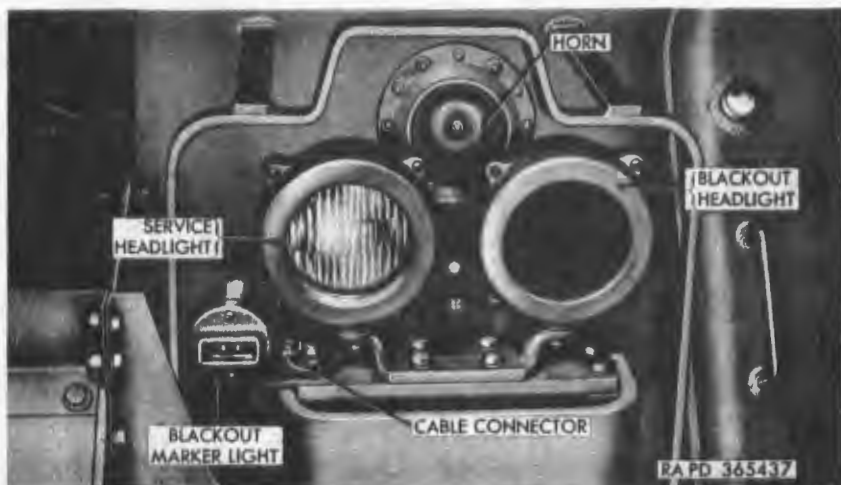

Figure 149. Horn and right headlight group.
b. Horn and Horn Operating Switch. The horn (fig. 149) is a vibrator type with an internal ground connection and is mounted on the hull front plate between and to the rear of the right service and blackout headlights. The horn is actuated by a push button-type switch located on the steering control crossbar (fig. 10).
c. Service Headlights (figs. 149 and 150). The service headlights are bracket mounted under a guard on the left and right front of the hull. These lights are actuated from the main light switch (A-1, fig. 15) which is located on the instrument panel and are used whenever the tactical situation permits bright lighting. The service headlights contain a replaceable sealed lamp-unit.
d. *Blackout Headlights* (figs. 149 and 150). Each blackout headlight is mounted beside a service headlight and toward the center of the vehicle. These lights are used for total blackout operations with the periscope M19. Refer to paragraph 40 for description and operation of this equipment.
f. Blackout Marker Lights (figs. 149 and 150). The blackout marker lights are mounted on the left and right front of the hull next to the service headlights. These lights are identical and are used during partial blackout operations to indicate location to nearby vehicles.
a. Horn (fig. 149).
- (1) *Removal.* Disconnect cable connector from receptacle on rear of horn. Remove two hex-head bolts with integral lockwashers and bracket support which secure horn to the mounting bracket and remove horn.
- (2) *Installation.* Position horn and bracket support on horn mounting bracket; secure with two $\frac{1}{4}$ x $\frac{3}{4}$ hex-head bolts with integral lockwashers and be sure that a good ground contact is made. Connect cable connector to receptacle on rear of horn.
- (1) *Removal.* Check that master relay switch (E, fig. 15) is in the OFF position. Disconnect two cable connectors from receptacles on rear of service or blackout headlight (fig. 149 or 150). Remove hex nut, lockwasher, and bear-
- (2) *Installation.* Position service or blackout headlight (fig. 149 or 150) on mounting bracket and secure with bearing washer, $\frac{7}{16}$ -inch lockwasher and $\frac{7}{16}$ -inch hex nut but do not tighten until headlight beams are alined (c below). Connect two cable connectors to receptacles on rear of headlight.
blackout marker light (fig. 149) door to light body and remove door. Press in and turn counterclockwise to release lamp from socket and remove lamp.
- (1) *Removal.* Check that master relay switch (E, fig. 15) is in the OFF position. Remove cable connectors (fig. 149) from retaining clip and separate connectors. Remove hex nut and lockwasher securing blackout marker light (fig. 149) to mounting bracket and remove light.
- (2) *Installation.* Clean contact surfaces to assure good ground connection and position blackout marker light (fig. 149) on mounting bracket. Secure with 5/16-inch lockwasher and 5/16-inch hex nut. Connect cable connectors and secure connectors in retaining clip.